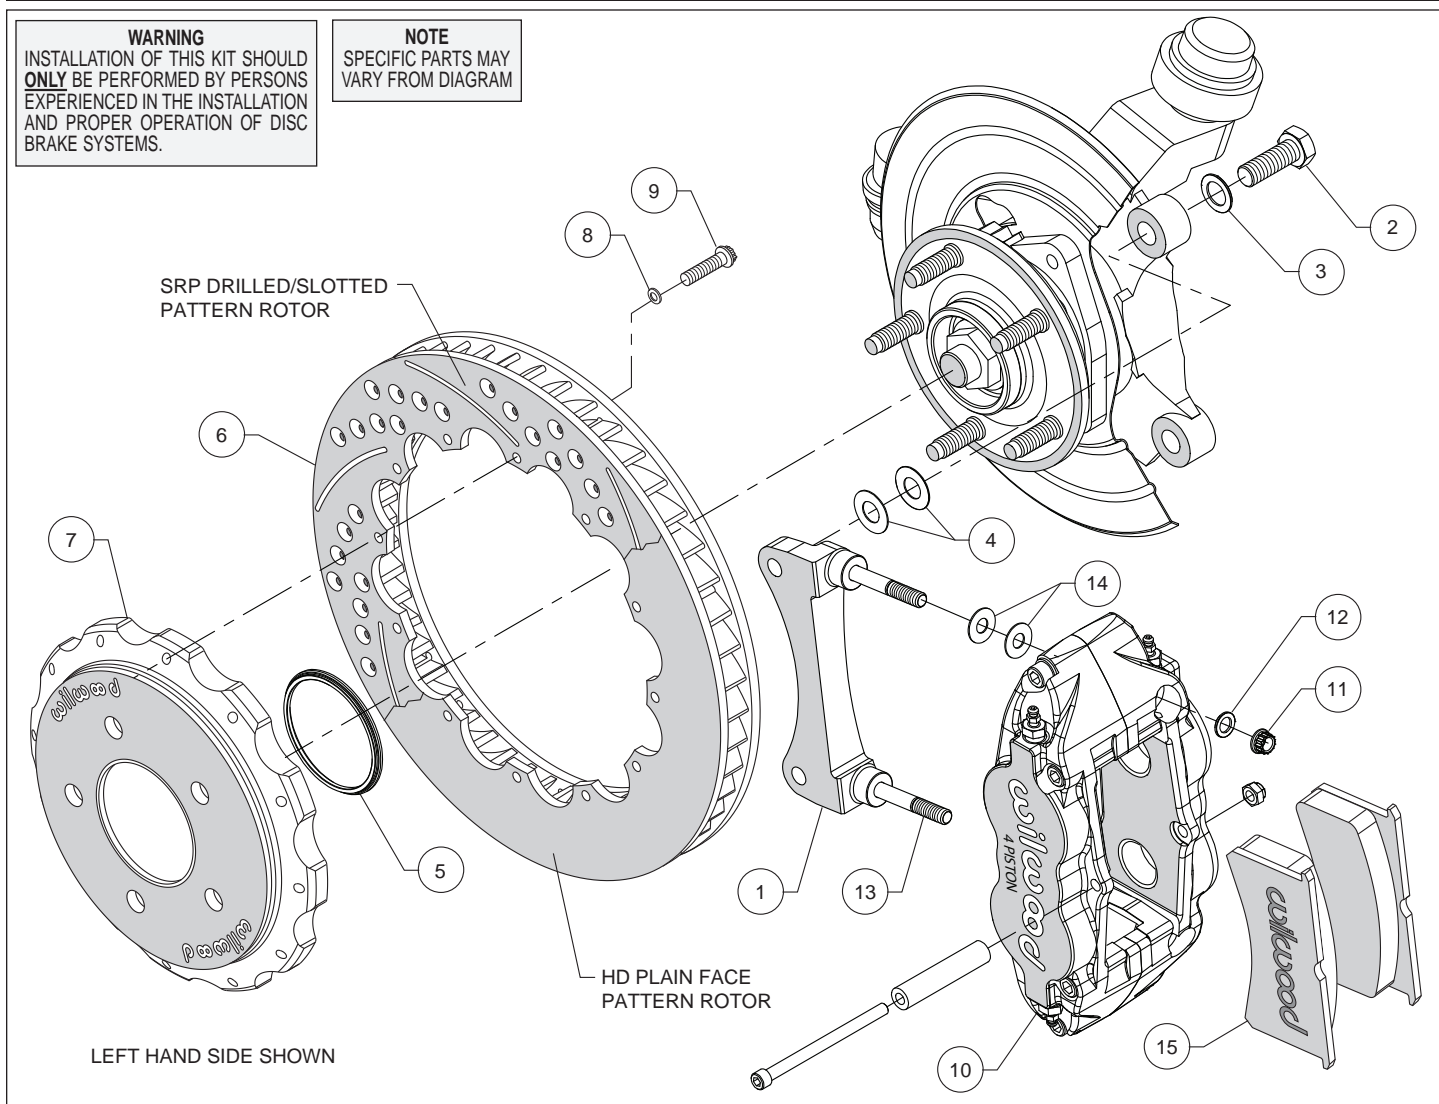
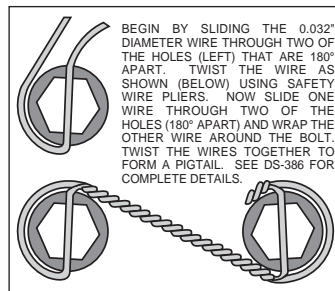

Figure 1. Typical Installation Configuration
Figure 3. Safety Wire Diagram
Assembly Instructions (numbers in parenthesis refer to the parts list and Figure 1 on the preceding pages):
- The caliper mount bracket (1) should initially be installed with clean, dry threads on the mounting bolts. Orient the bracket as shown in Figure 1 and Photo 1 and install using mount bolts (2) and washers (3). Initially place two .029" thick shims (4) on each bolt between the bracket and upright, Figure 1. Temporarily tighten the mounting bolts. **NOTE: The bracket must fit squarely against the mount bosses on the upright.** Inspect for interference from casting irregularities, machining ridges, burrs, etc. Later, after the caliper alignment has been checked, the mount bolts will be secured using red *Loctite*[®] 271.
- Orient the rotor (6) and the hat (7) as shown in Figure 1 and Photo 2. Attach rotor to hat using bolts (9) and washers (8). Using an alternating sequence, apply red *Loctite*[®] 271 to the threads, and torque to 155 **in-lbs**. For an added measure of security, the bolts may be safety wired using standard 0.032 inch diameter stainless steel safety wire as shown in Figure 3. Please refer to Wilwood's data sheet DS-386 for complete
- Lubricate the caliper mounting studs (13) with lightweight oil. Initially place two .035" thick shims (14) on each stud as shown in Figure 1 and Photo 7. Mount the caliper (10) onto the bracket (1) using lock nuts (11) and washers (12), Figure 1. Temporarily tighten the lock nuts and view the rotor through the top opening of the caliper. The rotor should be centered in the caliper, Photo 8. If not, adjust by adding or subtracting shims (4) between the bracket and the upright. Always use the same amount of shims on each of the two mounting bolts. Once the caliper alignment is correct, remove the bracket mounting bolts one at a time, apply red *Loctite*[®] 271 to the threads, and torque to 75 ft-lb.